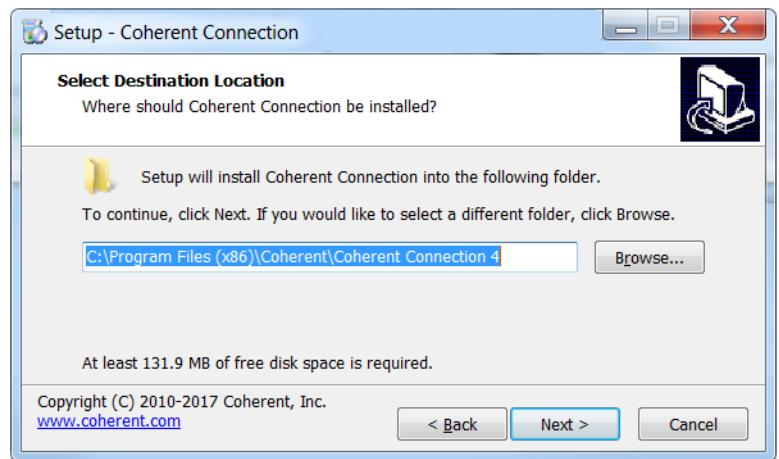

Figure 5-10. Welcome Screen for Installation
6. The Welcome screen shown in Figure 5-10 is displayed.